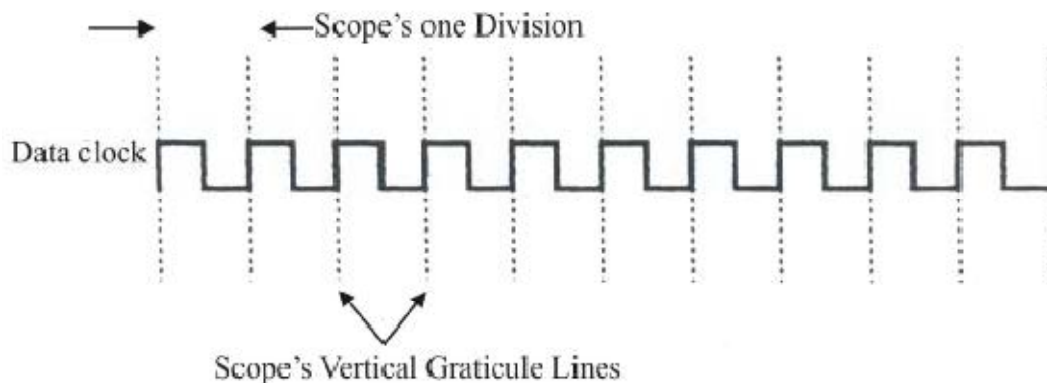

Figure 6 (Data clock output)
13. Observe the data clock output at TP4 on **ST2106** trainer's data format block with Oscilloscope. Adjust the oscilloscopes time base & position control until each rising edge of data clock coincides with one of scope's vertical graticule line as shown in figure 6. Each main division on scope's horizontal axis now represents one data bit time. Adjust the trigger level (manually, if necessary, to obtain a stable trace.) This sets convenient reference against which to observe the other wave forms.